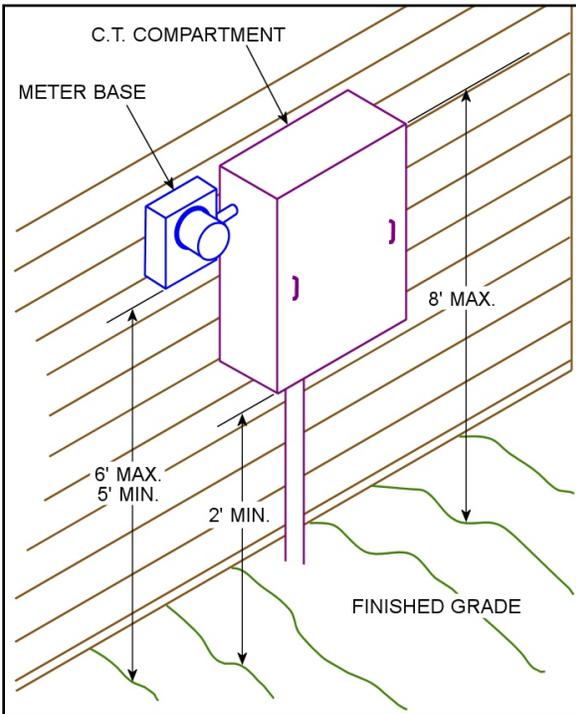

Figure 11: Preferred Installation
All potential and current transformers must be installed on the supply side of the main disconnect. All load monitoring equipment or current-limiting fuses must be located on the load side of the Utility’s metering. Instrument transformer enclosures must contain only main service conductors; no customer equipment is allowed inside the meter or instrument transformer enclosures. Three sets of main service conductors may be served off the load side of the current transformer. The bottom of the enclosure must be no less than two feet and the top must be no more than eight feet above the floor or working platform. Refer to Figures 11 for details. All exceptions must be obtained in advance from the Utility’s Meter Department. All meters and enclosures are to be located in accordance with Section 2.04.
Current Transformer (CT) Compartment: (refer to Figures 11 &amp; 12)